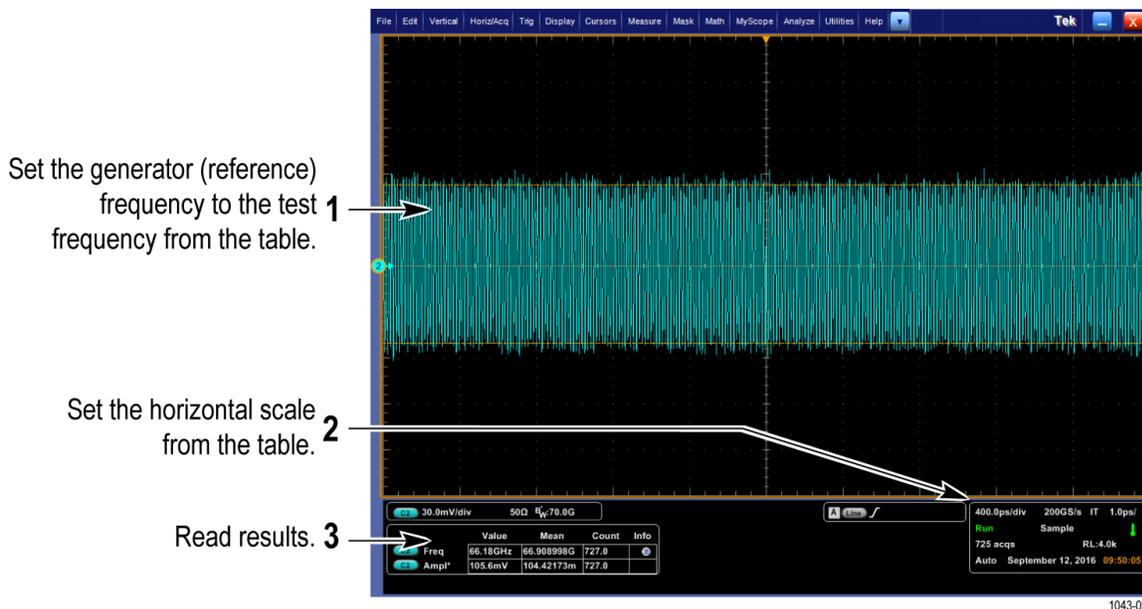

Figure 21: Measurement of analog bandwidth
- Read the results at the Chx Amplitude mean readout, which will automatically measure the amplitude of the test signal. (See Figure 21 on page 153.)